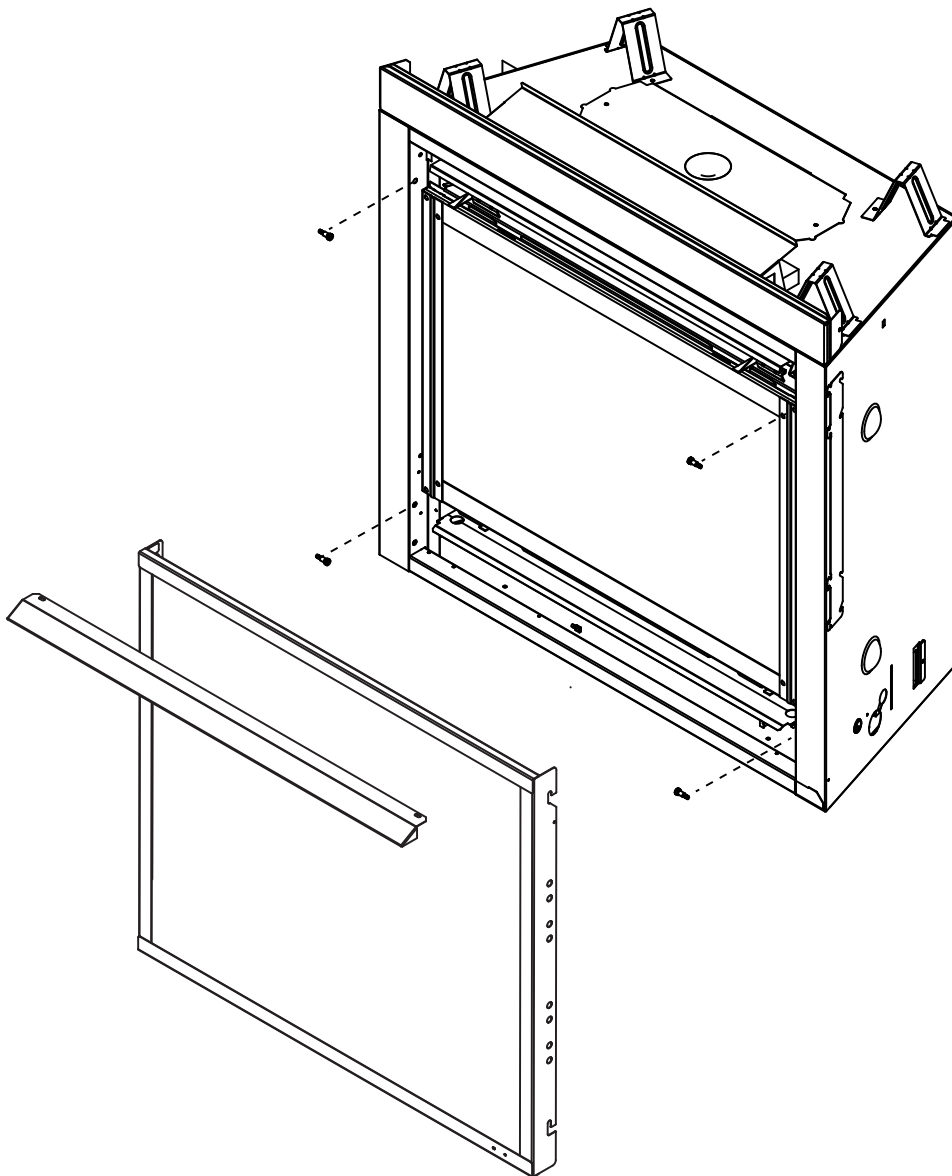

Figure 10.8 Install Decorative Front and Hood
2. Install four shoulder bolts as shown in Figure 10.8.
4. Install hood on appliance by inserting into the two hood clips. See Figure 10.8.